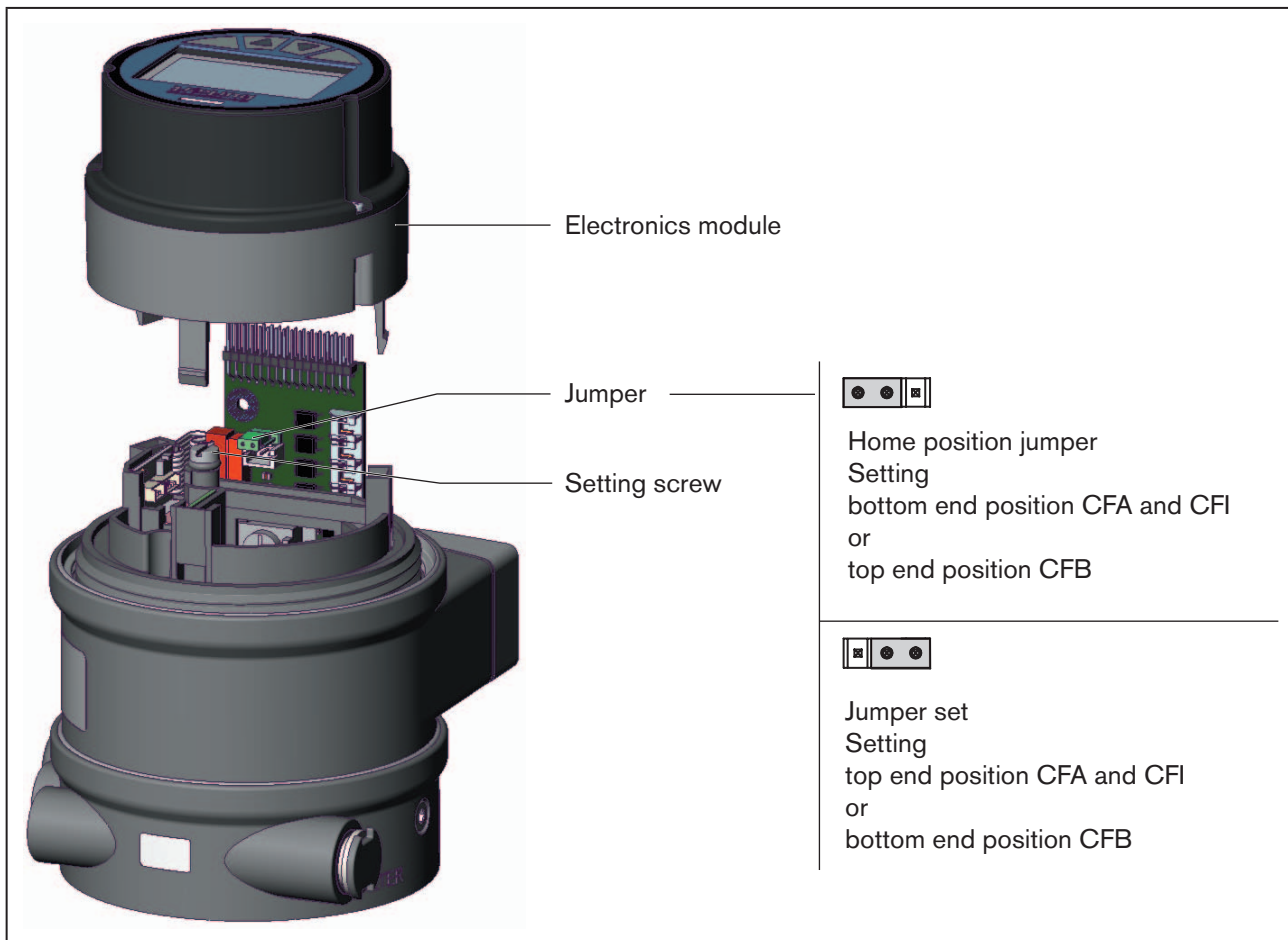

Figure 30: Setting the proximity switches
- Set jumper (see "Figure 30: Setting the proximity switches").
- Return jumper to home position ("Figure 30: ").